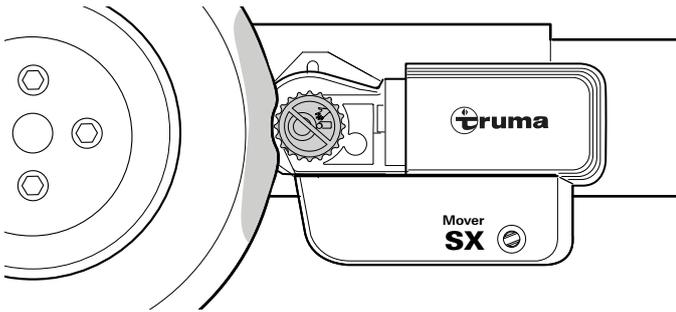

Fig. 15
- The drive rollers are pressed approx. 20 mm into the tyres on both sides (Fig. 15).